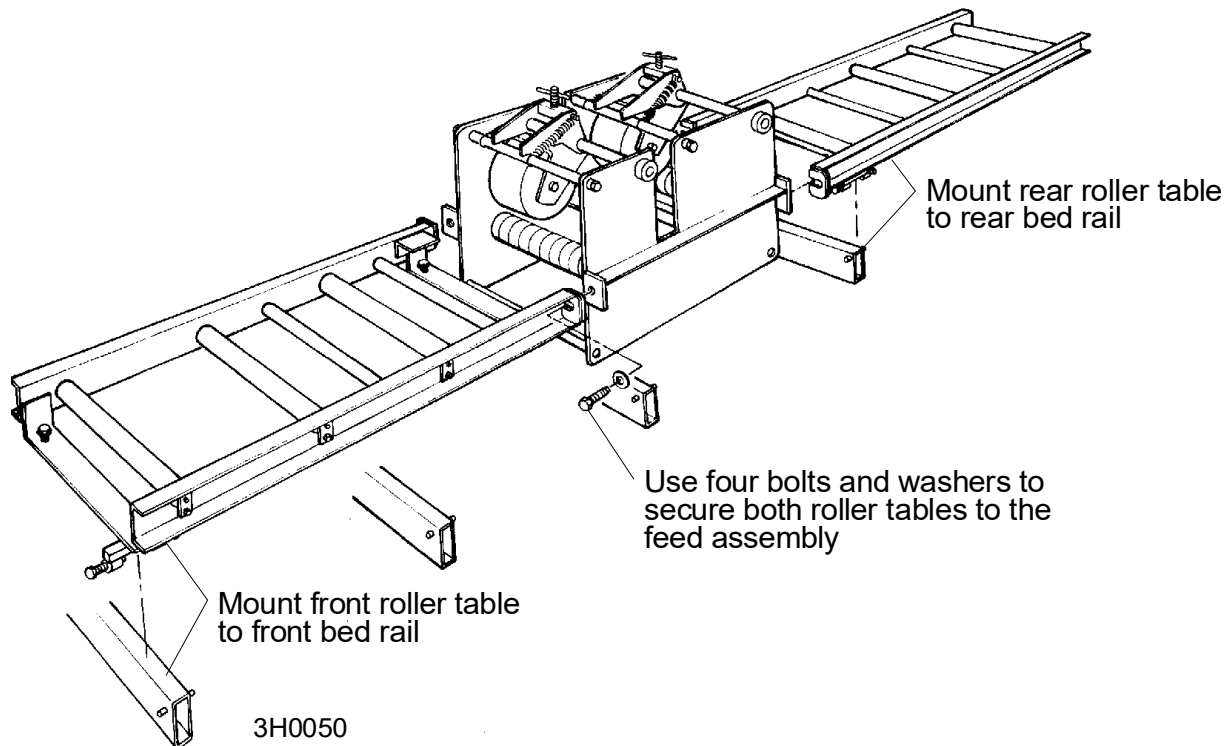

FIG. 1-11
See Figure 1-11. The two roller table assemblies each have mounting brackets on the bottom.
6. Make sure the two support adjustment bolts on the front table assembly do not touch the bed rails. Adjust if necessary. **See Figure 1-11.**